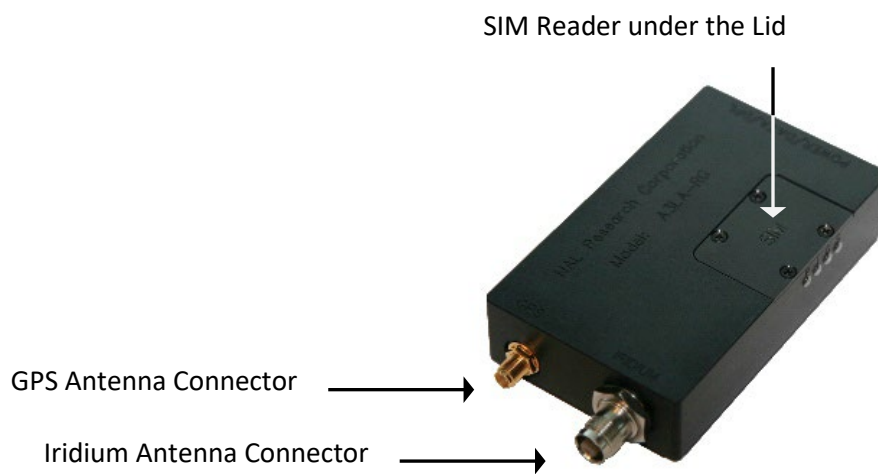

Figure 6: Location of the SIM Reader
The A3LA-RG modem uses a single TNC female 50-ohm connector for both transmit and receive (see **Figure 6**). Cable loss between the modem and the antenna is critical and must be kept less than 3 dB at the operating frequency of 1616.0 to 1626.5 MHz. The minimum link margin of 12 dB must also be maintained. General Radio Frequency (RF) parameters are listed in Table 2 below.
The A3LA-RG modem uses an SMA female connector for the GPS antenna (see **Figure 6**). Any active antenna requiring a bias voltage of approximately 3.3 VDC with <50 mA is appropriate. NAL Research offers a magnetic mount GPS antenna as well as dual Iridium/GPS antenna for use with the A3LA-RG. For low-cost and applications where small form-factor and light-weight are required, NAL Research highly recommends model SAF7352-IG (see **Figure 5**).
The A3LA-RG modem contains an integrated SIM reader. The modem uses and requires an Iridium SIM chip for operation. The SIM chip is inserted into the opening located at the top of the modem, as shown in **Figure 6**. A plastic locking mechanism holds the SIM in place. Place the SIM chip (facing down) into the SIM reader's bracket. Ensure that the cut-off on the SIM chip aligns with the SIM reader.